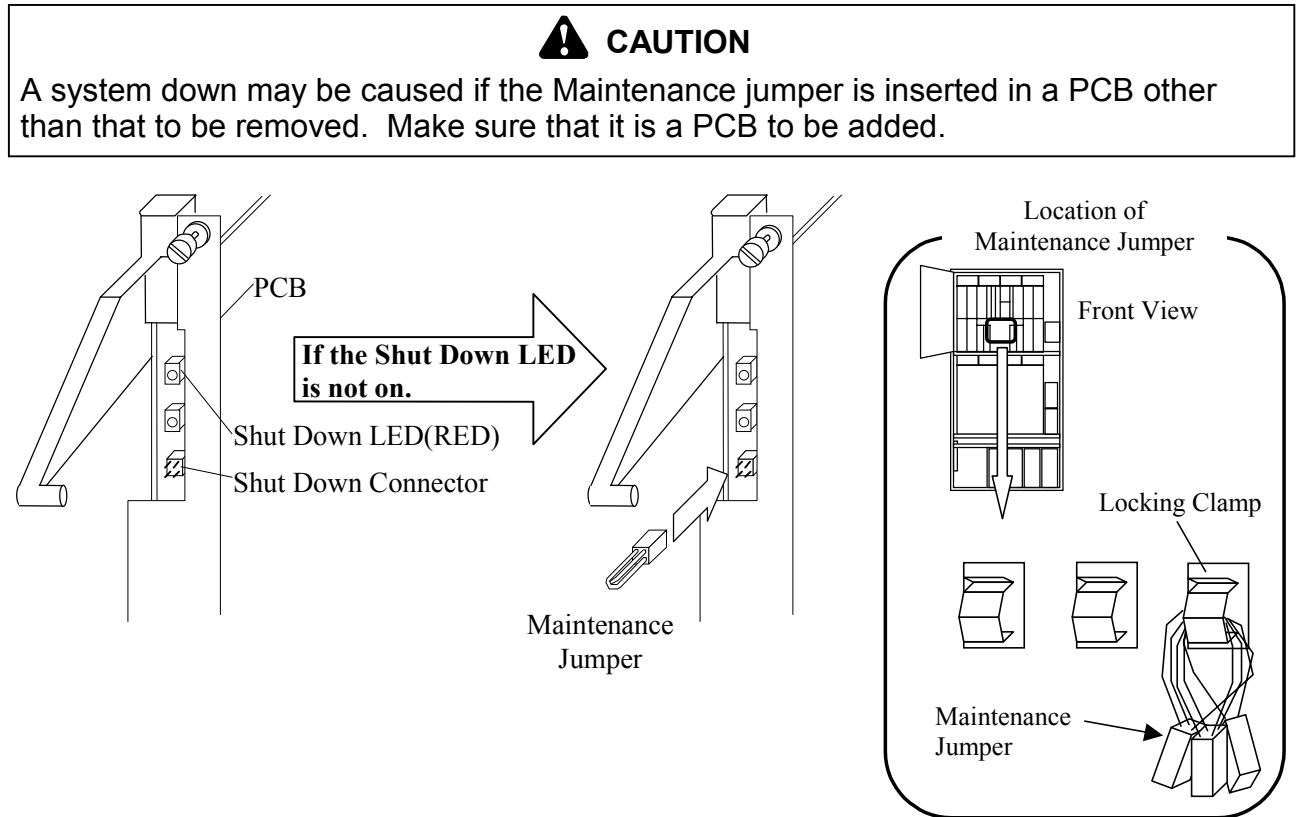

Fig. 3.7.1-1 Location of the Shut Down LED
- a. While referring to Fig. 3.7.1-1 and Table 3.7.1-2, check the Shut Down LED on the Cache Memory PCB in the Front Logic Box. Connect the Maintenance Jumper to the Shut Down Connector if the Shut Down LED is not on. (This procedure [2-1. a.] is not valid for a New Installation.)